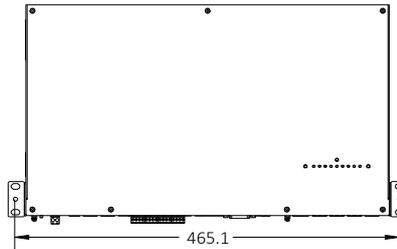

Figure 2-4 Dimensions of installation hole
2. Use an impact drill ( $\Phi 6.0\text{mm}$ ) to drill two holes on the wall (maximum error of hole spacing: 1.3mm) according to the dimensions shown in Figure 2-4 (unit: mm).